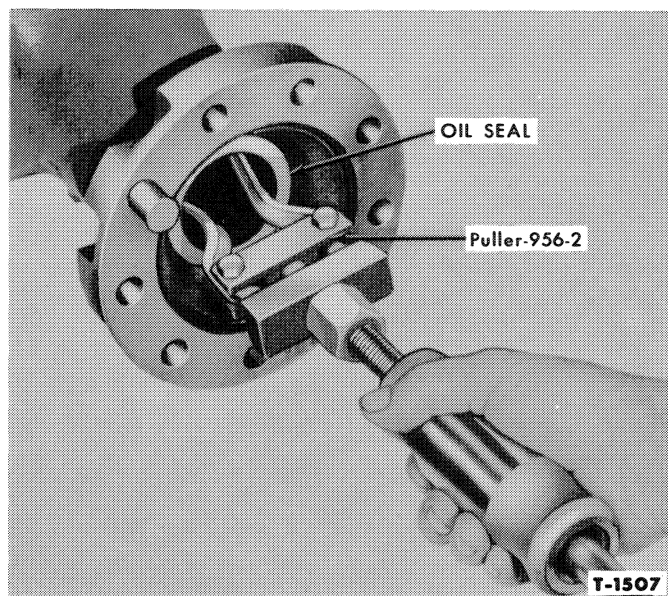

Figure 8—Removing Rear Axle Housing Oil Seal
3. Remove the oil seal with Puller 956-2 and a slide hammer, Figure 8.